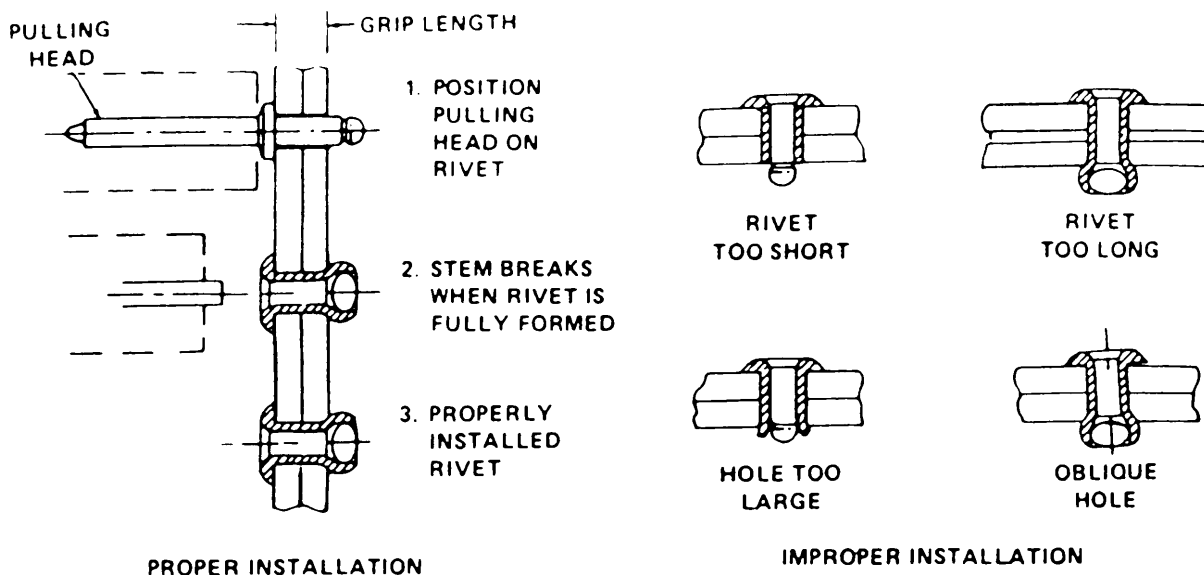

Figure 3-4. Installing Blind Rivets.
(1) Installation. (Figure 3-4)